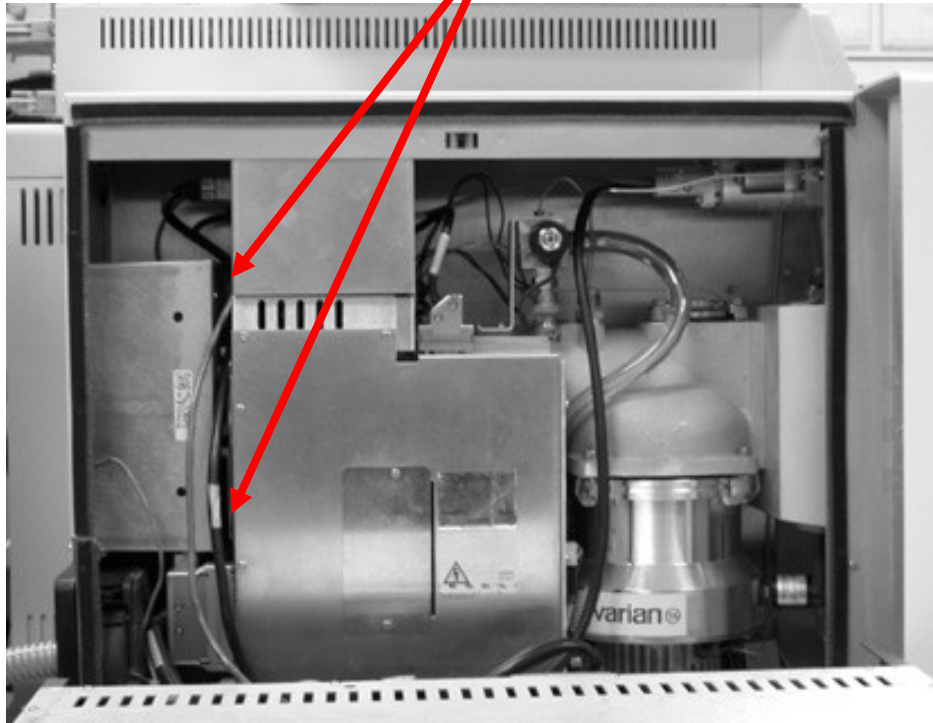

Figure 2 (RF Adjustments)
- 4.3.1 While monitoring voltmeter adjust RF capacitors equally until a maximum voltage is reached. (See Figure 2) This voltage is normally between 3.5 and 9.5 VDC.